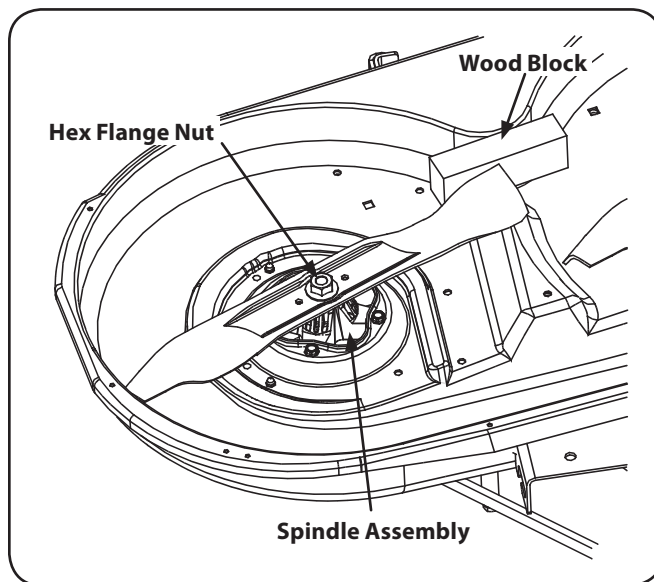

Figure 7-7
2. Use a $\frac{15}{16}$ " wrench to hold the hex nut on top of the spindle assembly when loosening the hex nut securing the blade. A block of wood may be placed between the deck housing and the cutting edge of the blade to help in breaking loose the hex nut securing the blade. See Fig. 7-7.